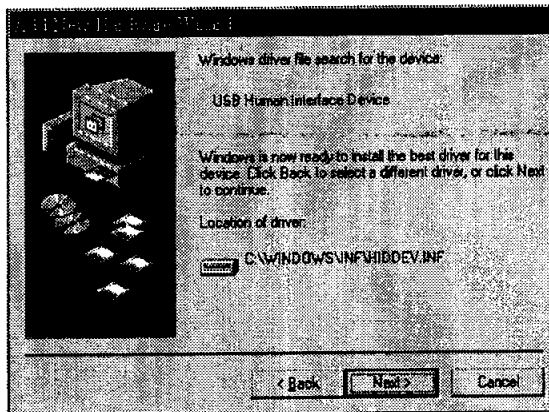
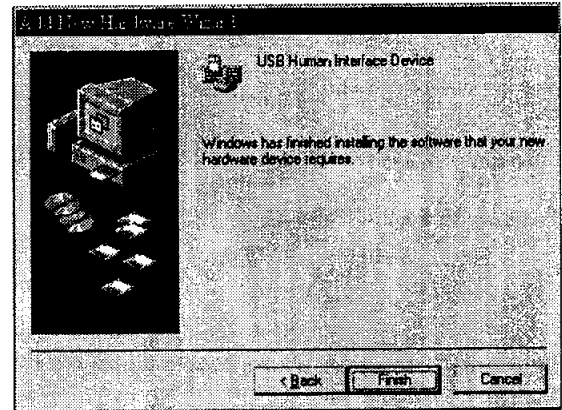

Figure 14
Figure 15
(4) Click "CD-ROM Drive(C)", and click "Next". Figure 14 will appear.
(5) Click "Finish" on Figure 14 and Figure 15 will appear. Click "OK" on Figure 15 to complete Enumeration of Mitsubishi Monitor Function.